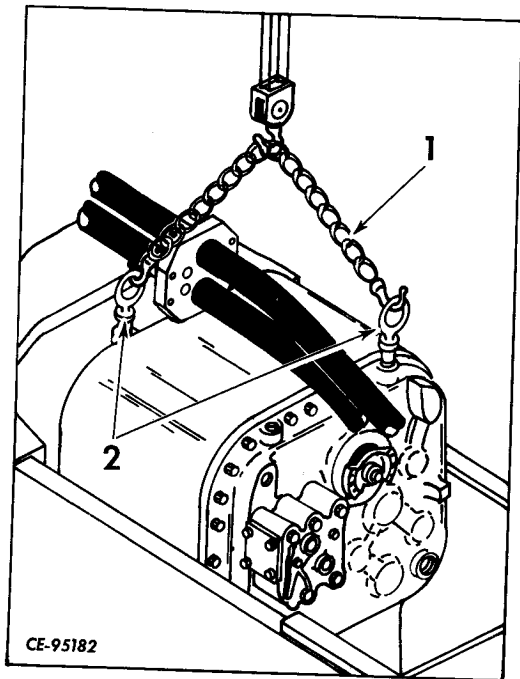
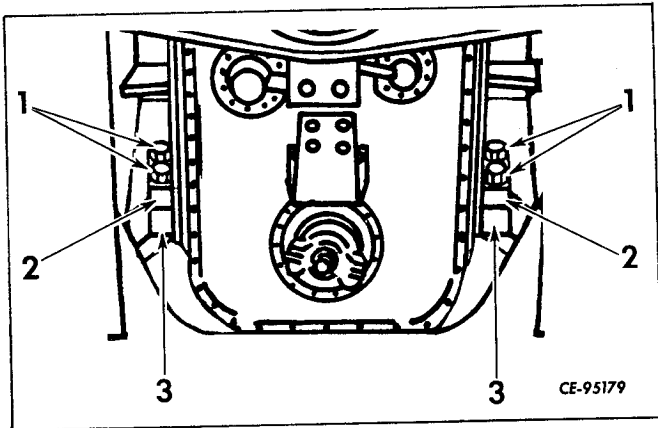

Figure 4-79
Figure 4-82
Attach a chain (1, Fig. 4-79) to the lifting eyes (2) lift transmission into tractor and position it on the pin supports (3, Fig. 4-82). Block transmission from underneath and remove chain and lifting eyes.
Install caps (2, Fig. 4-82) on pin supports (3). Secure with cap screws (1). Tighten cap screws to recommended torque (refer to "SPECIAL TORQUES").